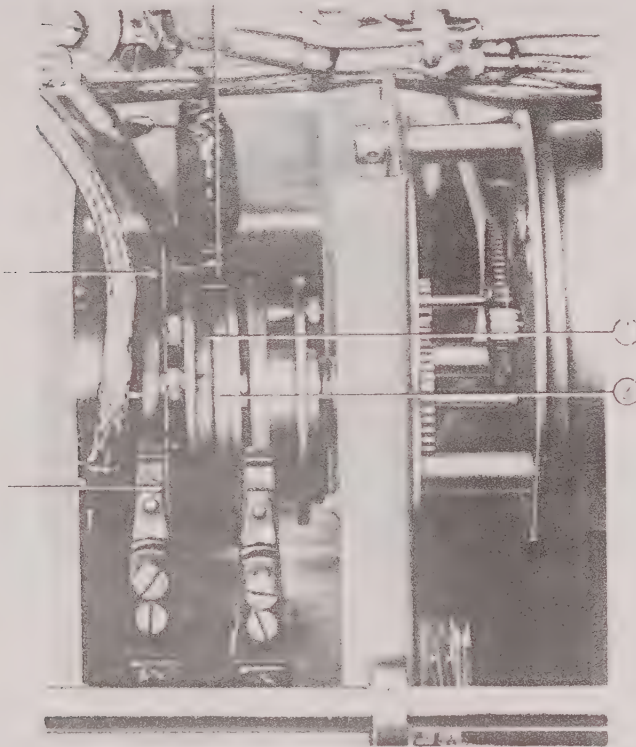

Fig. 2a Cam contacts for setting the frequency lockout
5. Activate and set the frequency skipping circuit (Figs. 2a and 2b):